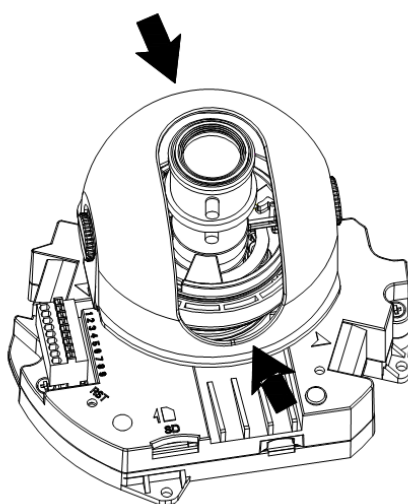

Figure 2- 5 General installation 3
- a) For the IR series product, you can skip current step and go the step b) directly. For the non-IR series product, push the port slightly to remove the decoration enclosure from the black plastic enclosure. See Figure 2- 5.
- b) Lens pan rotation angle setup. Please refer to Figure 2- 6 to unfasten the lock screw A and adjust the pan monitor angle to the proper position. Then fix the lock screw A. The pan angle ranges from 0°~350°.